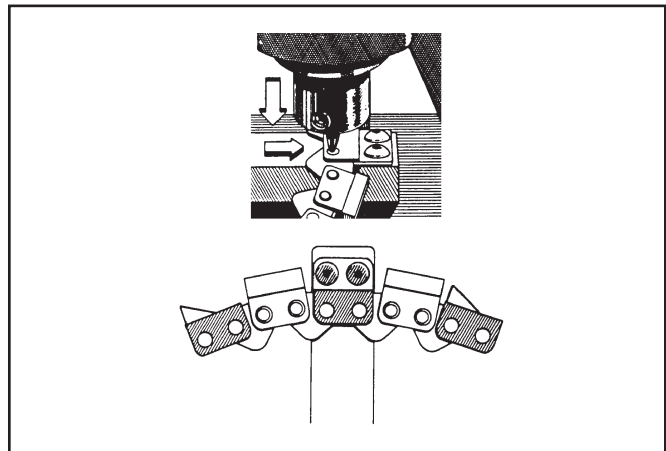

Figure 13. Removing a Rivet
3. Position the rivet head you want removed directly under the chain breaker punch and then pull the handle down far enough to remove the rivet (Figure 13). Do not use excessive force.